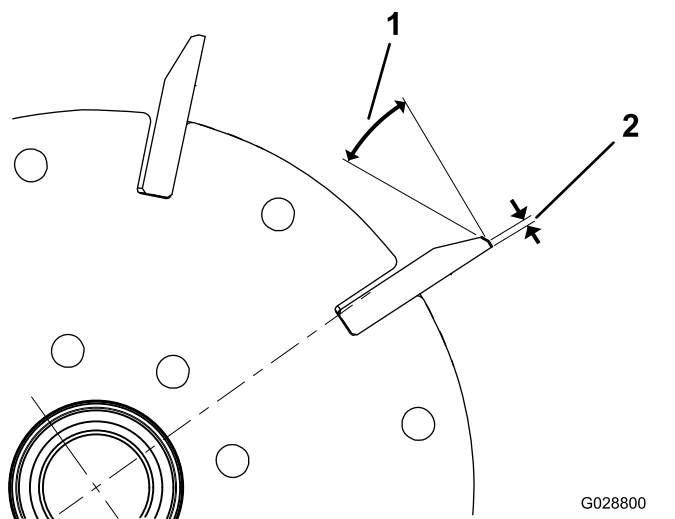
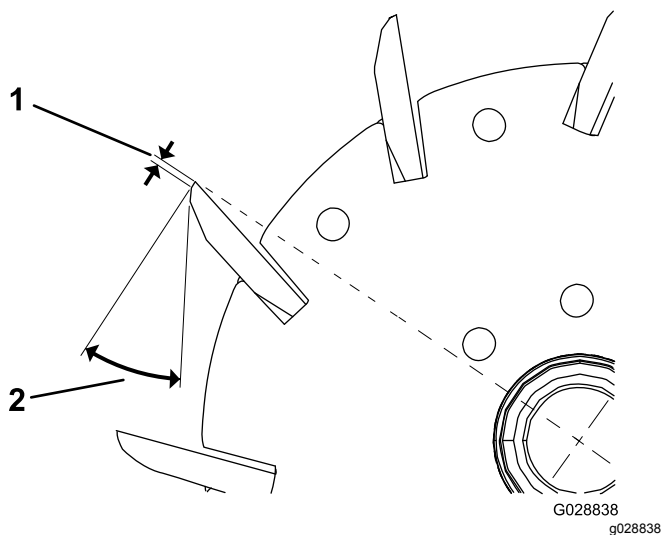

Figure 23
Figure 24
1. Apply a 30 degree relief grind on all reel blades until the land width is 1.3 mm (0.050 inch) wide (Figure 23 and Figure 24).